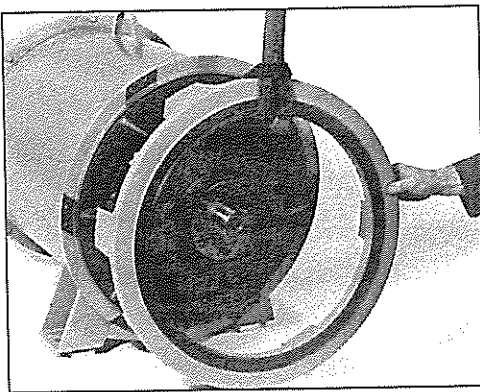

Figure 6-55
3. a. For single bearing generators, slide the SAE adapter over the fan and secure to the main stator and frame assembly with capscrews torqued per section 12 (figures 6-55 and 6-56). It may be necessary to raise the rotor assembly slightly to allow the mounting of the SAE adapter.